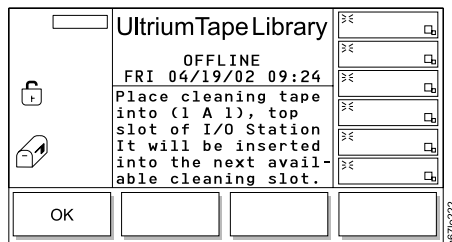

Figure 172. Cleaning Tape screen
- If no cleaning cartridge is present in the library (each of the three rectangular boxes contain no shading), import a cleaning cartridge by pressing the button below the **Import** softkey. The Cleaning Tape screen displays (see Figure 172).